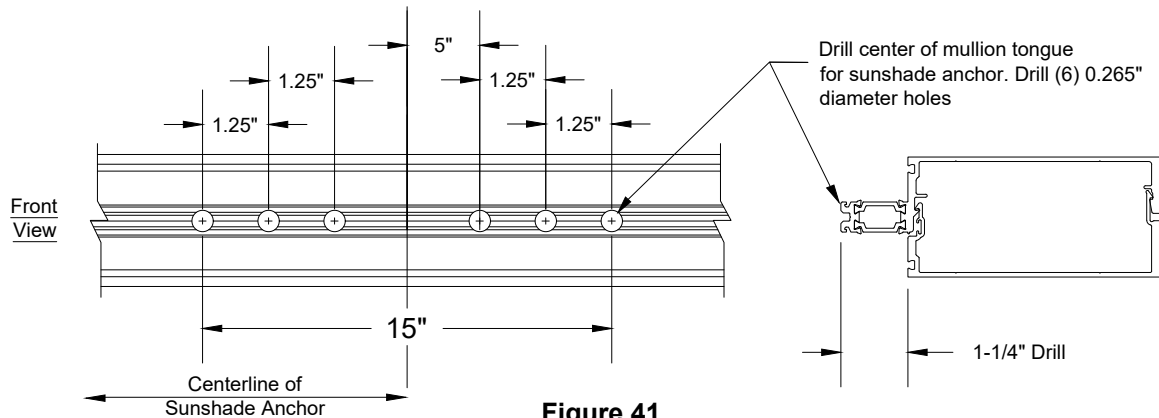

Figure 41
- 1) Locate the centerline of each sunshade anchor on each mullion. Set the anchor in the appropriate position and match drill the 6 clear holes of the anchor into the front aluminum tongue of the mullion with 0.265" diameter clear holes. The standard sunshade anchor (SS-202-01) for Reliance-TCSS Curtain Wall will require (6) 3/8" diameter pipe sleeves. Drill the previously matched drill holes to 0.390" x 1-5/16" deep. See FIGURE 41 & 42. (Size, locations and quantity of bolts may vary based on project requirements. Consult engineer for specific applications).